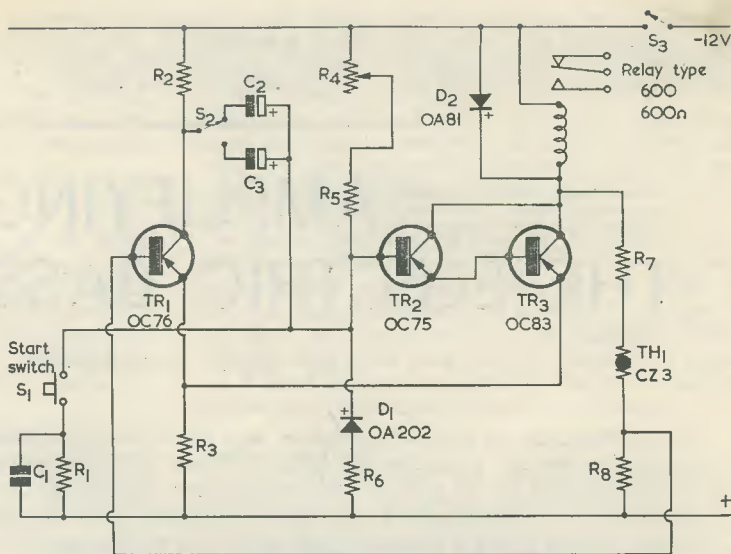
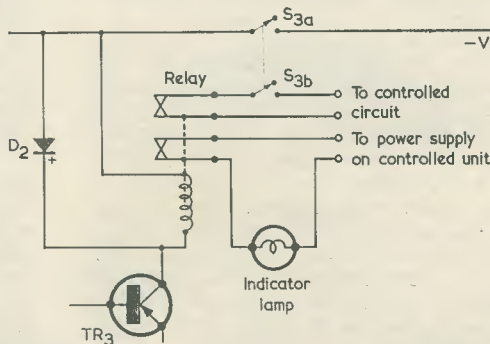

Fig. 2. The circuit of the complete transistor timer. Battery drain is of the order of 16mA. TR₁ may be an OC83 instead of an OC76, if desired
Fig. 3. A switching arrangement for critical applications. S_{3(a)} is the on-off switch for the timer whilst S_{3(b)} is the cut-out for the controlled circuit
Figure 2 shows the compromise finally selected in the present case.
- S₃ s.p.s.t. (Fig. 2) or d.p.s.t. (Fig. 3)
The values of C (C₂ and C₃ in Fig. 2) are chosen to suit the maximum required duration using the equation given above. Those specified are suitable for a dual range timer covering 0.5 to 6 and 6 to 60 seconds approximately. The measured maximum variability of timing, at a constant setting of R, and with C=500μF, was about ±1.5% of the mean timing period. This result was obtained from a sample of twenty periods. This variability will tend to increase as the value of C is increased.
advisable to use a 2-pole 2-way supply switch for the unit, this being wired as shown in Fig. 3. This automatically open-circuits the